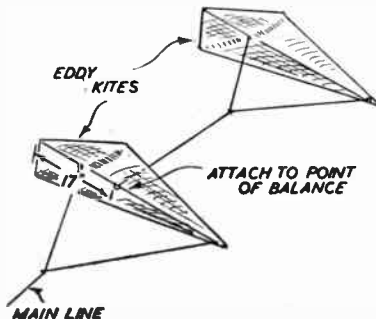

Fig. 5—Flying two kites in train
Two or more kites of this type can be flown in a train, as shown in Fig. 5, all off a single line. The second kite is tied to the point of balance of the first kite on a short line, and so on. Remember, however, that in a train of kites the pull on the main line is increased and so a stronger line must be used. (424)